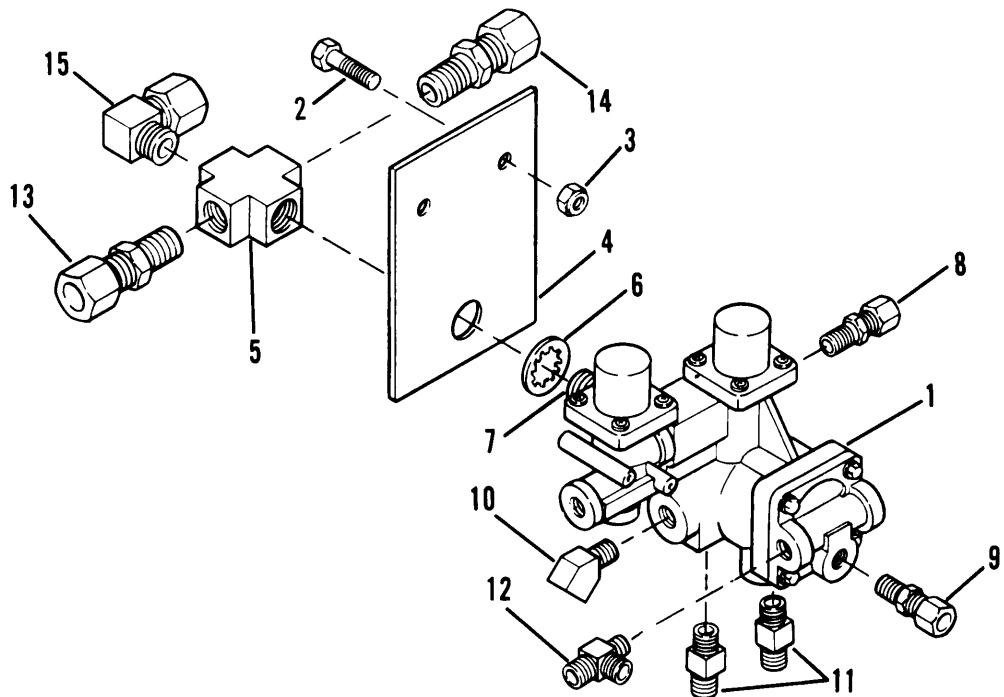

Figure 4-34. Multi-Function Valve W7W
- (1) Tag and disconnect air lines from multi-function valve (1, fig. 4-34).
- (2) Remove two screws (2) and locknuts (3) from mounting plate (4).
- (3) Remove multi-function valve (1) from female pipe cross (5) and mounting plate (4).
- (4) Remove washer (6) and male adapter (7) from multi-function valve (1).
- (5) Remove male connectors (8, 9 and 10) from multi-function valve (1).
- (6) Remove adapters (11) and tee (12) from multi-function valve (1).
- (7) Remove male connectors (13 and 14) from pipe cross (5).
- (8) Remove 90° elbow (15) from pipe cross (5).
- (1) Install 900 elbow (15, fig. 4-34) in pipe cross (5).
- (2) Install male connectors (13 and 14) in pipe cross (5).
- (3) Install adapters (11) and tee (12) in multi-function valve (1).
- (4) Install male connectors (8, 9 and 10) in multi-function valve (1).
- (5) Install male adapter (7) and washer (6) on multi-function valve (1).
- (6) Install multi-function valve (1) on mounting plate (4) and female pipe cross (5).
- (7) Secure multi-function valve (1) and mounting plate (4) to frame with two screws (2) and locknuts (3).
- (8) Connect air lines to multi-function valve (1).
- (9) Close drain cocks.
- (10) Charge air brake system.
- (11) Check for leaks.